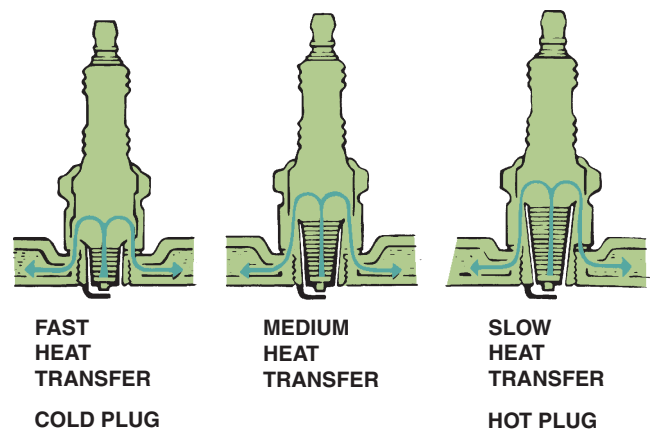

FIGURE 18-35 The heat range of a spark plug is determined by distance the heat flows from the tip to the cylinder head.
- **Heat range.** This refers to how rapidly the heat created at the tip is transferred to the cylinder head. A spark plug with a long ceramic insulator path will run hotter at the tip than one that has a shorter path, because the heat must travel farther. ● **SEE FIGURE 18-35.**